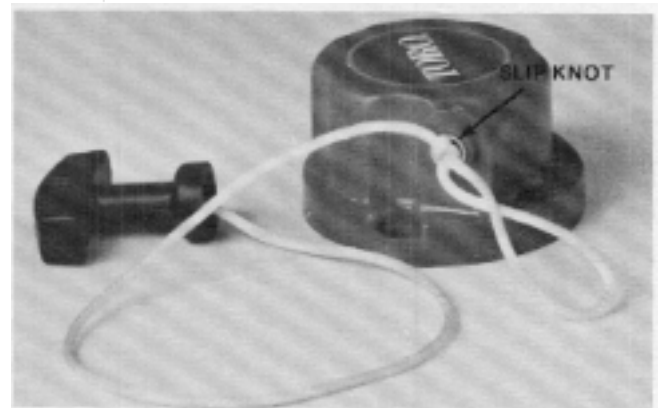

Figure 66
1. Pull out a loop of starter rope approximately 30 cm (12 inches) and tie a tight slip knot to keep it from rewinding. This loop will provide the slack necessary to untie the knot from the "T" handle. See Figure 66.